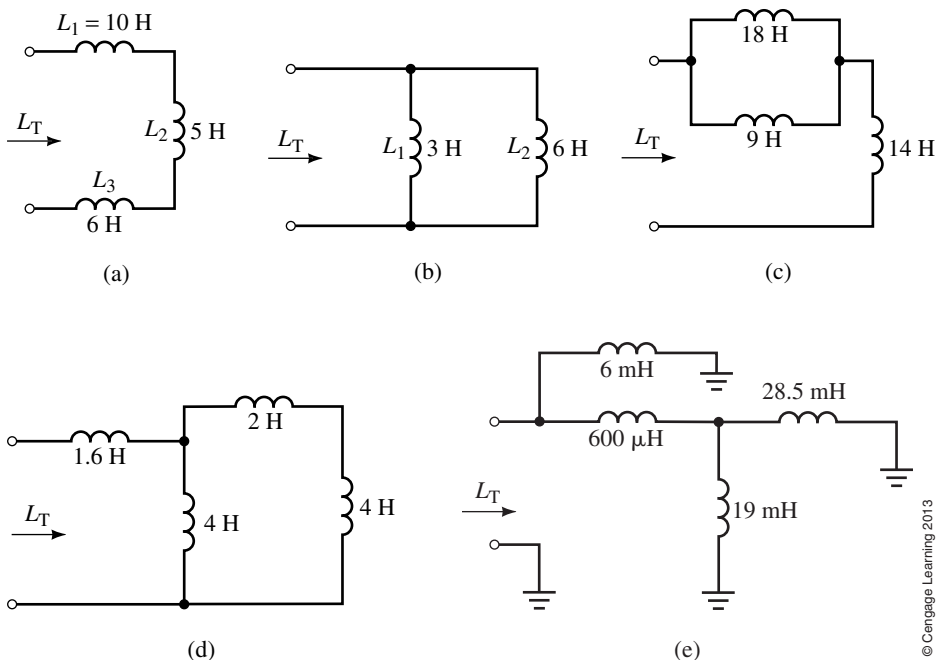

FIGURE 13-37
21. Determine L_T for the circuits of Figure 13-37.